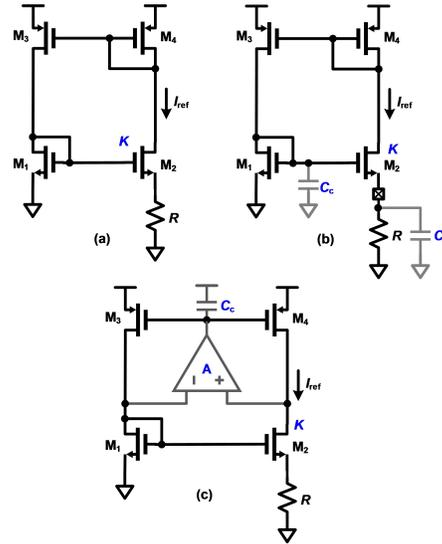

Figure 3
- Design and simulate a constant- g_m bias circuit shown in Figure 3 (a), along with a start-up circuit. Plot the currents in the BMR when V_{DD} is swept. Comment on the supply sensitivity of the circuit.
- In practice, on-chip resistance varies by $\pm 20\%$ and thus an external precision resistance may be used for setting the bias current as shown in Figure 3 (b). However, the bond-pad introduces a parasitic capacitance (say $C_p = 200 fF$). This necessitates a compensation capacitance C_c to stabilize the circuit. Modify your circuit from part (a) by including the bond-pad parasitic cap and stabilize the circuit using appropriate value of C_c (using hit-and-trial at this point).
- Repeat part (a), by using an ideal amplifier model (use controlled-source model) to regulate the drain voltages of the bottom NMOS devices as shown in Figure 3 (c). Note that,